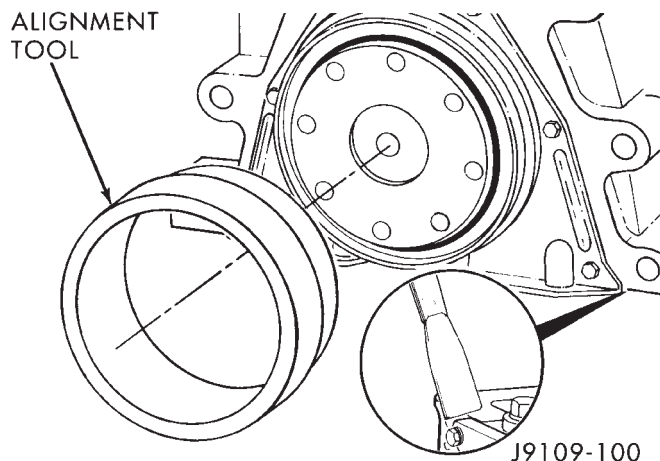

Fig. 95 Crankshaft Rear Seal Housing Alignment Tool
- (4) Remove the alignment tool and trim the gasket even with the oil pan mounting surface (Fig. 95).